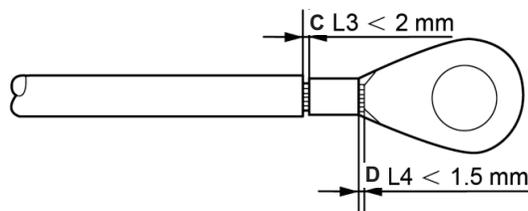

Figure 3.16 Strip wire
4) Insert the stripped wire into the OT terminal crimping area and use the hydraulic clamp to crimp the terminal to the wire (see Figure 3.16).